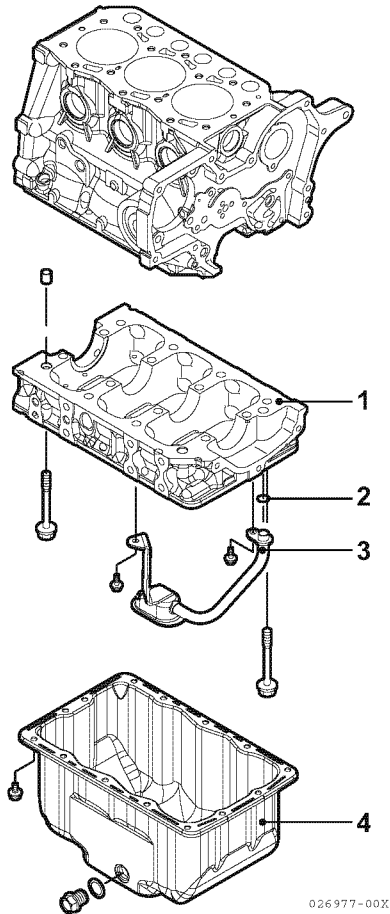

Figure 6-47
2. Remove the oil pan (4, **Figure 6-47**).
3. Remove the ladder frame (1, **Figure 6-47**).
4. Remove the oil pickup tube (3, **Figure 6-47**) and O-ring (2, **Figure 6-47**).